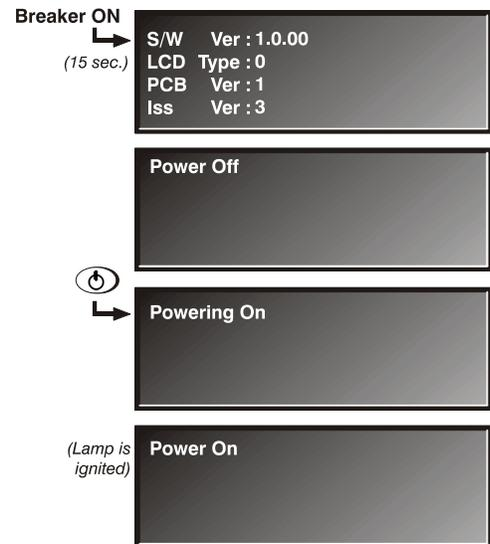

Figure 2.1. Turning on the projector
1. On the projector, turn the power breaker/switch on. The LCD Status Display Window displays the initializing window for 15 seconds, and then indicates **POWER OFF** (Figure 2.1).
The LCD Status Display Window will display **Powering Up** and then, **Power On** (Figure 2.1) while the two-digit Status/Error Code Window will display **ON**.